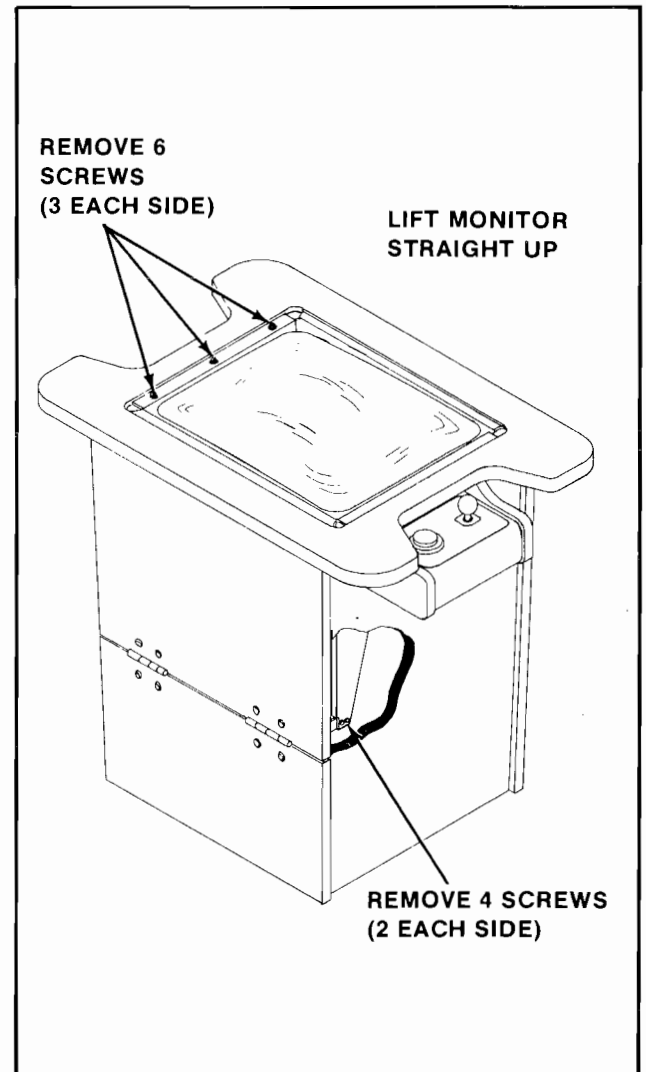

Figure 4-11 Removing the Monitor — Cocktail
- Remove the screws holding the T.V. monitor chassis to the "L" brackets by the door hinge(s). See Figure 4-11.
- Remove the screws which secure the T.V. monitor mounting brackets to the edges of the slot cut in the table top. See Figure 4-11.